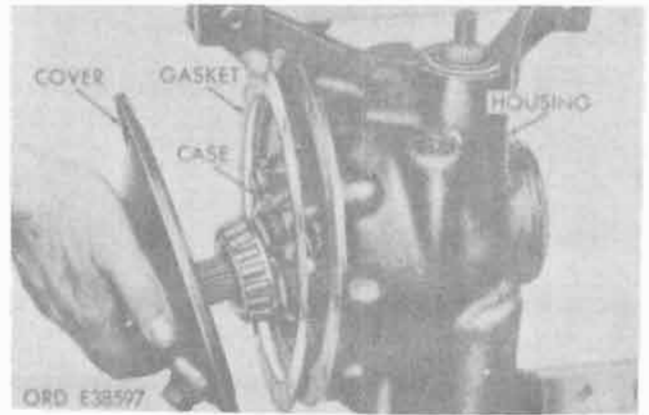

Figure 12-65. Assembling differential case in housing.
b. Position differential case, cover, and gasket to differential housing (fig. 12-65).
l. Remove housing cover, gasket, and differential case (fig. 12-65). Inspect ring gear pattern according to following instructions. Adjust as indicated to obtain pattern shown in figure 12-73 for new gear sets. Used gear sets must be adjusted to meet patterns recorded during disassembly.
a. Install differential case, housing cover, and gasket. Refer to figure 12-65.